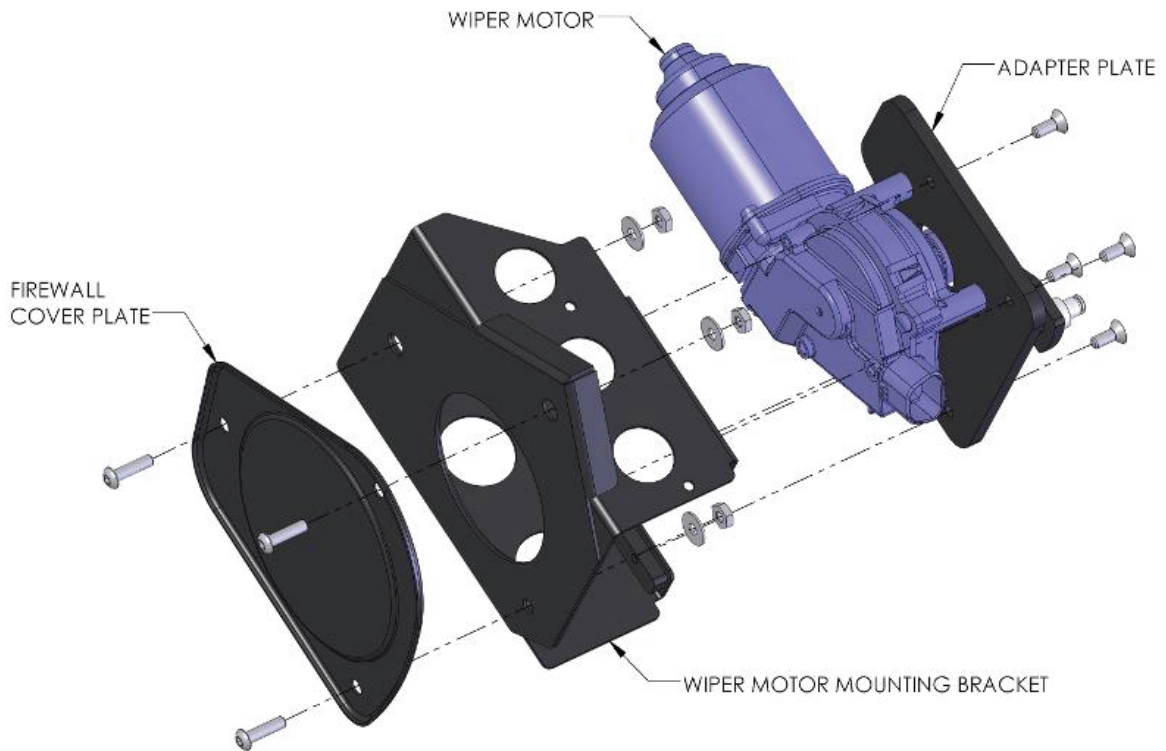
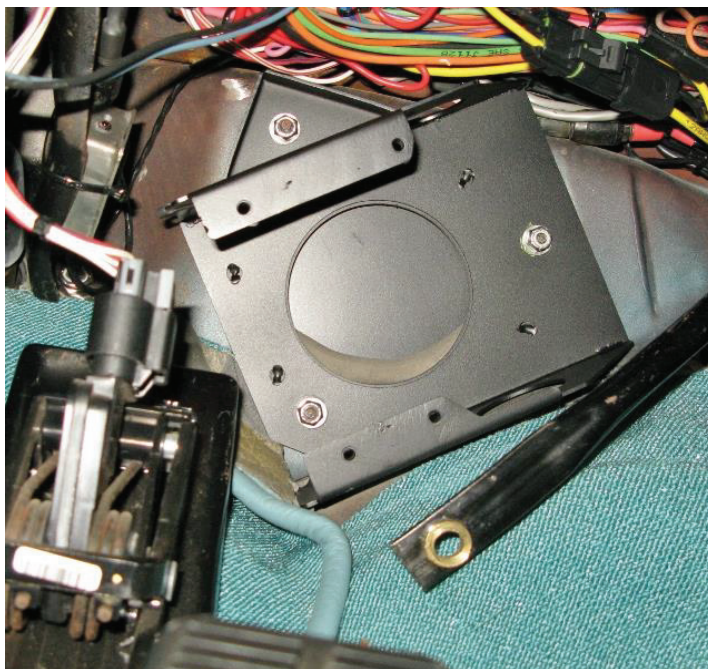

Figure 2 - Cover Plate, Mounting bracket, Wiper Motor, and Adapter Plate Assembly
Figure 3 – Install Mounting Bracket
6. Mount the wiper motor mounting bracket to the firewall by attaching it to the protruding cover plate screws from step 4 using the supplied washers and 10-24 Nylock nuts (Figure 2 below and Figure 3 on the next page).